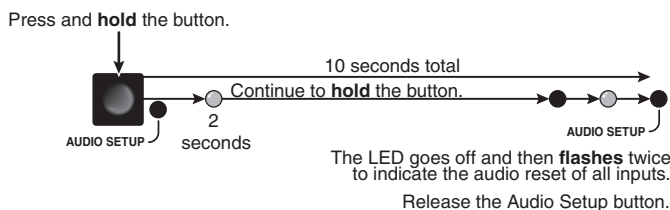

Figure 3-39 — Reset all input levels
1. Press and **hold** the Audio Setup (I/O) button for approximately 10 seconds (figure 3-39).